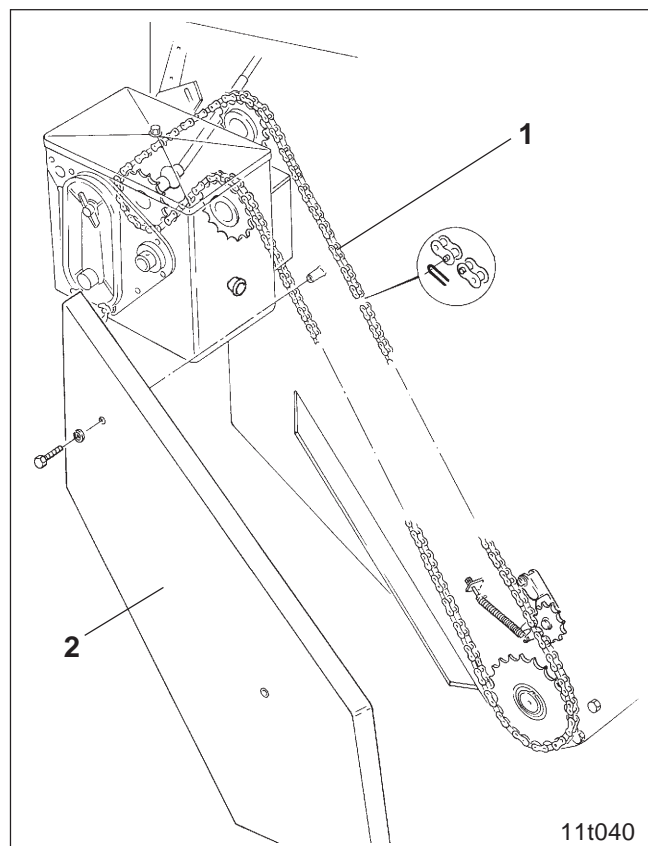

Fig. 50.3
- apply oil to the drive chain (Fig. 50.3/1) of the front packer seed tank. Remove chain guard (Fig. 50.3/2) before and put on back onto place afterwards.